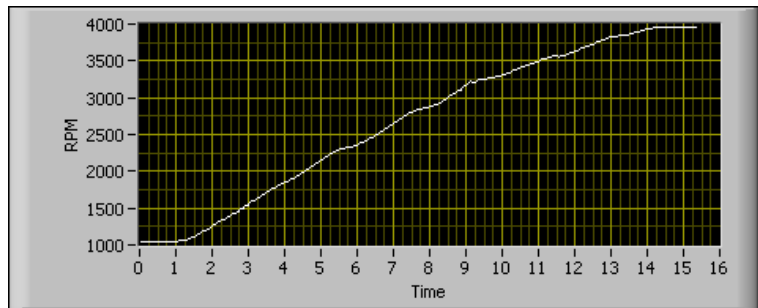

Figure 4-5. Simulated Speed Profile
8. If you want, compute the order waveform and magnitude with the simulated speed profile. Figure 4-5 shows the simulated speed profile.